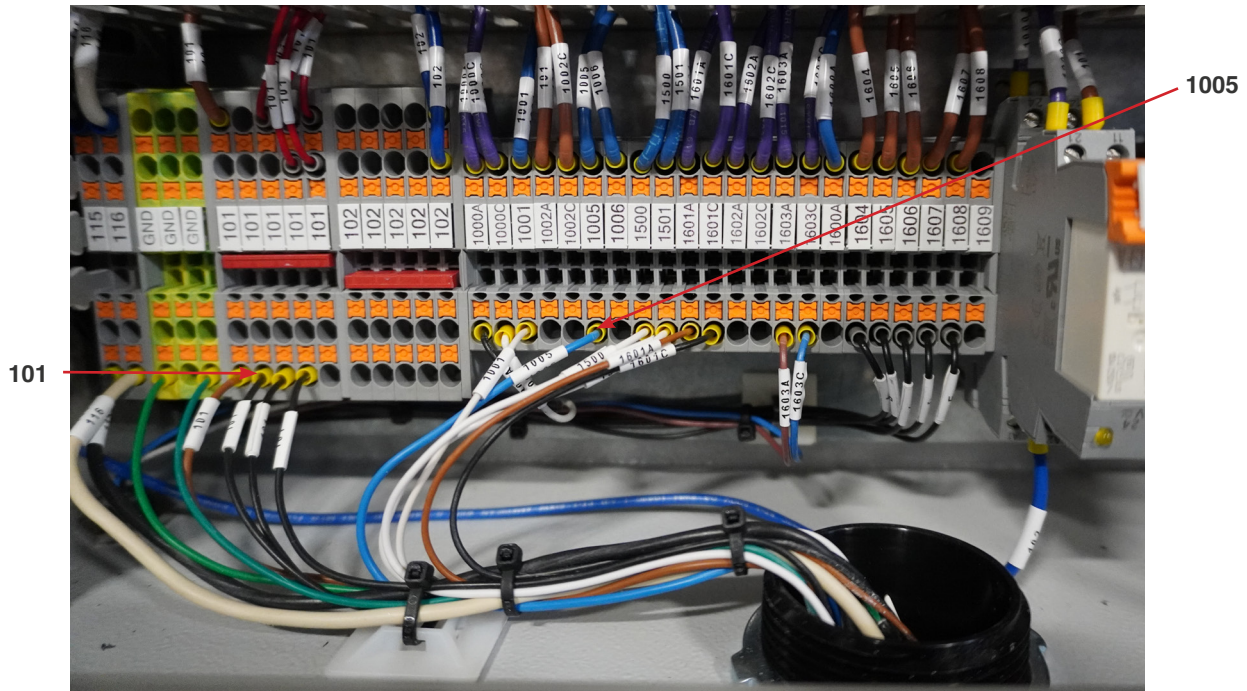

Fig. 7.2 - 3 - Flow switch wire connections
4. Remove the existing flow switch wire connections on terminals 101 and 1005 (Fig. 7.2 - 3).